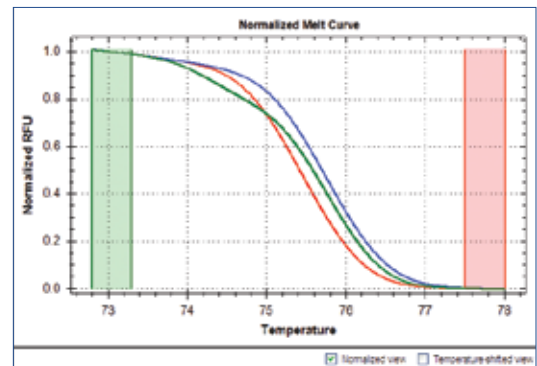

Fig. 7. Melt Curve pane.
1. In the Melt Curve pane, select the **Normalized view** checkbox to compare all the curves with the same starting and ending fluorescent signal level applied. Two cursors per region are provided, defaulted to the ends of the curve, as shown in Figure 7.
2. **Optional:** In the Melt Curve pane, select **Temperature-shifted view** to apply a temperature shift to each normalized fluorescence curve along the temperature axis (x-axis) (Figure 7).